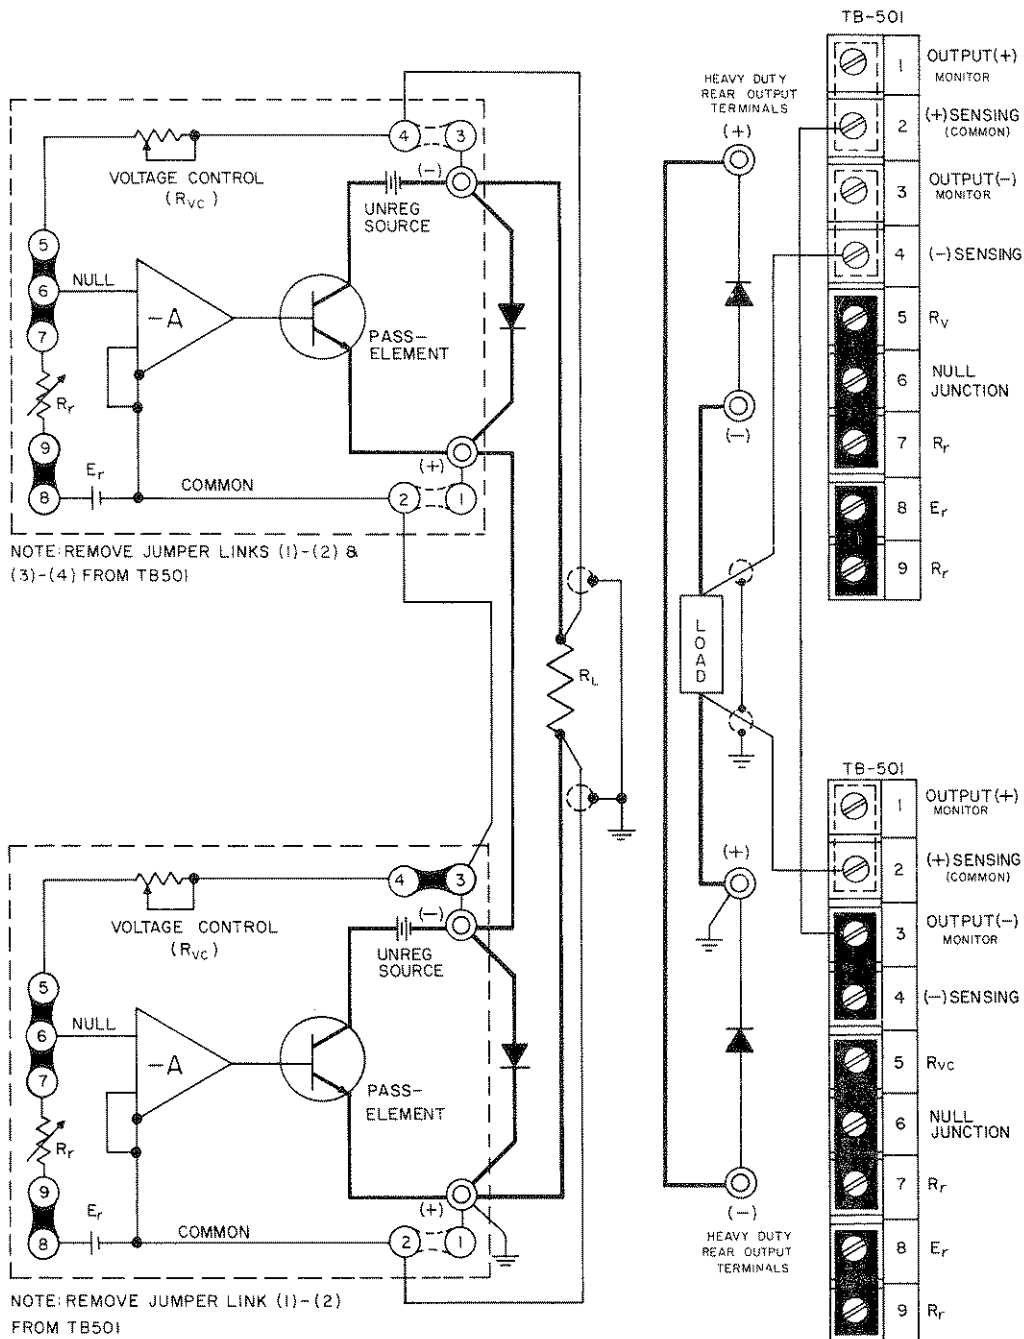
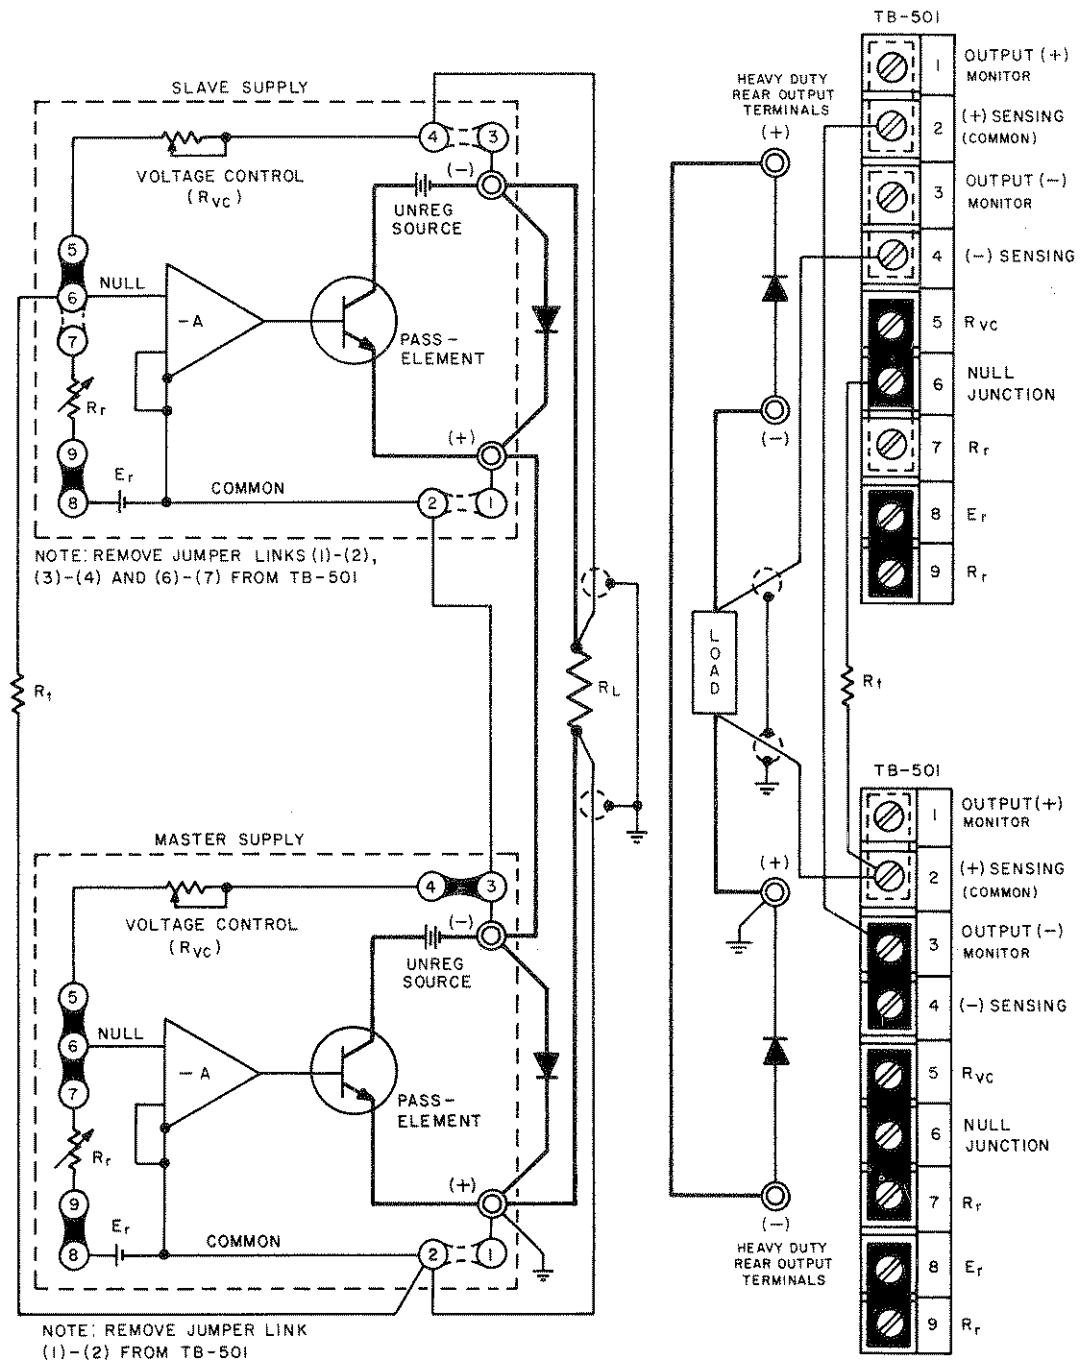

FIG. 3-10 AUTOMATIC SERIES CONNECTION OF KEPKO POWER SUPPLIES
FIG. 3-11 MASTER-SLAVE SERIES CONNECTION OF KEPCO POWER SUPPLIES
3-35 GENERAL. Kepco Power Supplies can be series-connected for increased voltage output, provided the specified limits on voltage to chassis are not exceeded. When series-connected, the supplies should be protected by means of a semiconductor diode across the output terminals of each power supply, as shown in FIG. 3-10. The peak inverse rating of these diodes must be at least as large as the output voltage of the supply to which they are connected. The continuous current rating of the diodes should be at least as great as the largest short-circuit current of the interconnected supplies.
3-36 Two basic series connection methods are generally used, the "Automatic Series Connection", as illustrated in FIG. 3-10, and the "Master-Slave" connection, shown in FIG. 3-11. The basic difference between these two alternate methods lies in the manner of the output control. While in the "Automatic" connection the outputs of both supplies may be controlled individually, in the "Master-Slave" connection, control is exercised from the "Master" supply alone, while the "Slave" supply follows the master command in a ratio which may be pre-determined by the user. The latter method of series operation is therefore frequently termed "Automatic Tracking".
- a) Connect load as shown in FIG. 3-10. Keep voltage drop in load wires as low as practical by using heavy gauge wire.
3-38 The "Master-Slave" series connection method is illustrated in FIG. 3-11. As seen from the figure, the reference voltage (E_r) of the "Slave" supply is disconnected and its input or null junction is connected to the output of the "Master" supply via the tracking resistor (R_t). The "Slave" supply output is thus completely dependent on the "Master" output voltage:
- a) Connect load as shown in FIG. 3-11. Keep voltage drop in the load wires as low as possible by using heavy gauge wire.
- c) Remove jumper links as shown (FIG. 3-11) and connect error sensing leads if remote sensing is desired. Sensing leads should be twisted and shielded.
- d) Select value of the tracking resistor (R_t) and connect with shielded wire as shown (FIG. 3-11).